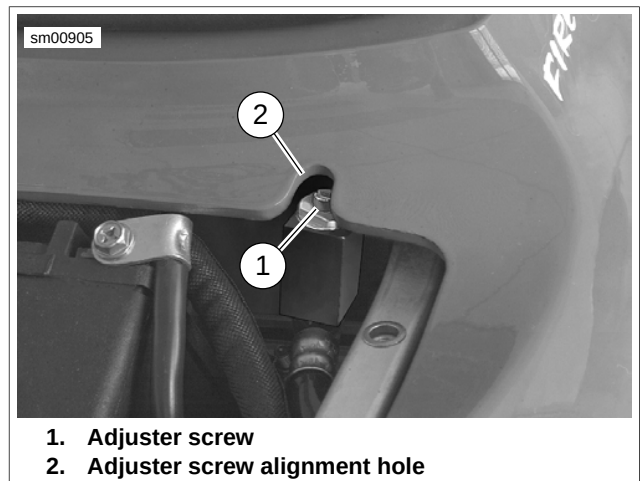

Figure 4-51. Adjuster Screw Alignment
See Figure 4-51. To ensure proper reservoir mounting, temporarily place upper body work onto tail section and adjust reservoir placement so adjuster screw (1) aligns with alignment hole (2).